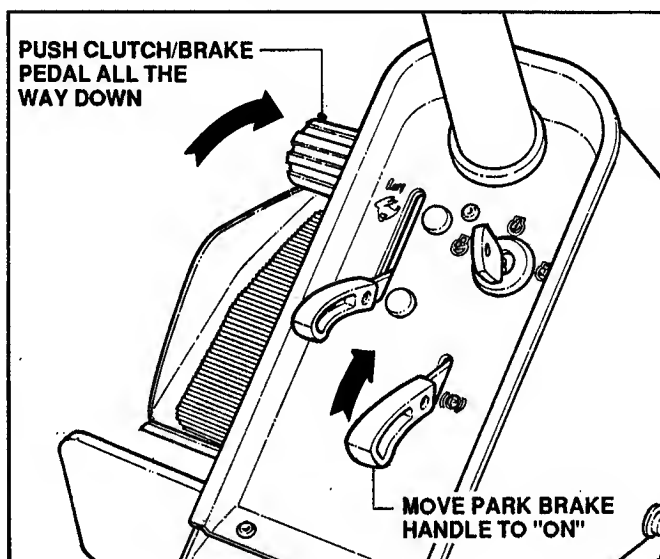

FIGURE 2.7
1. Engage park brake by pushing clutch/brake pedal "DOWN" and moving the park brake lever to the "ON" position. While holding the park brake lever "ON", release the clutch/brake pedal to set park brake. See Figure 2.7.
2. Push clutch/brake pedal all the way down and apply the park brake by lifting the park brake lever to the "ON" position. While holding park brake lever "ON" release clutch/brake pedal to set park brake. Refer to Figure 2.7.